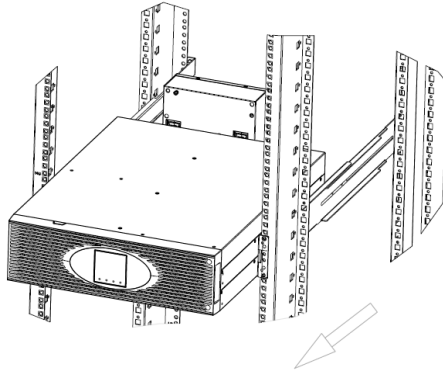

Figure 36: Removing the XANTO S 6000, step 3/3
3. Unscrew the mounting bracket of the UPS system on the front side of the rack and pull the UPS system out of the rack (see Figure 36).